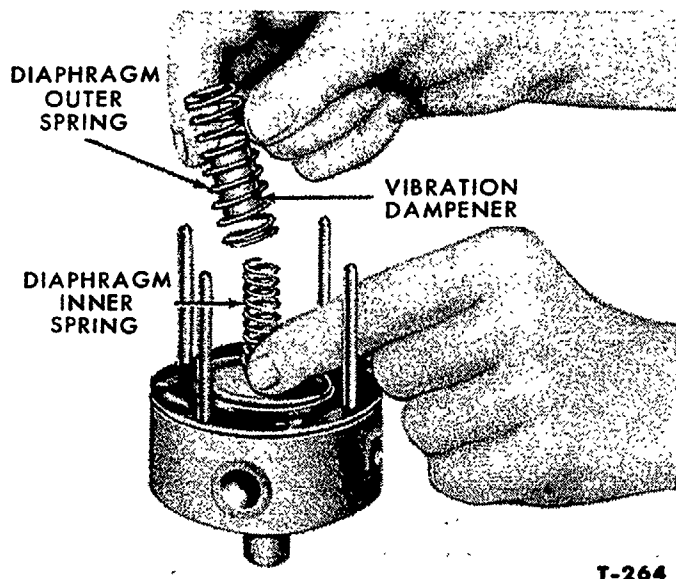

Figure 23—Installing Diaphragm Inner and Outer Springs
5. Position the baffle plate (7) with the recessed side down over the studs. Make certain that the fuel valve cap enters the hole in the baffle plate. Install the diaphragm (17) with the flanged disc facing up.
6. Place the diaphragm inner spring over the center of the diaphragm as shown in Figure 23. Place the dampener over the inner spring, then, place the outer spring over the dampener.